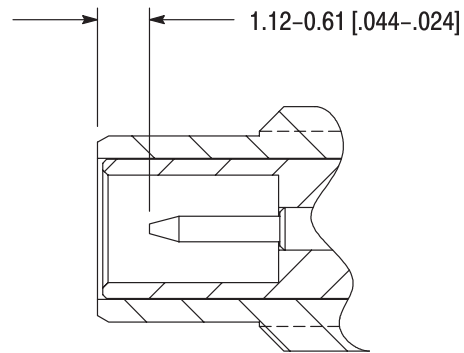

Figure 7
17. Adherence to the preceding steps should yield the tolerances shown in Figure 7.